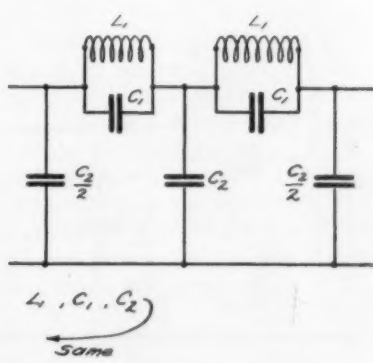
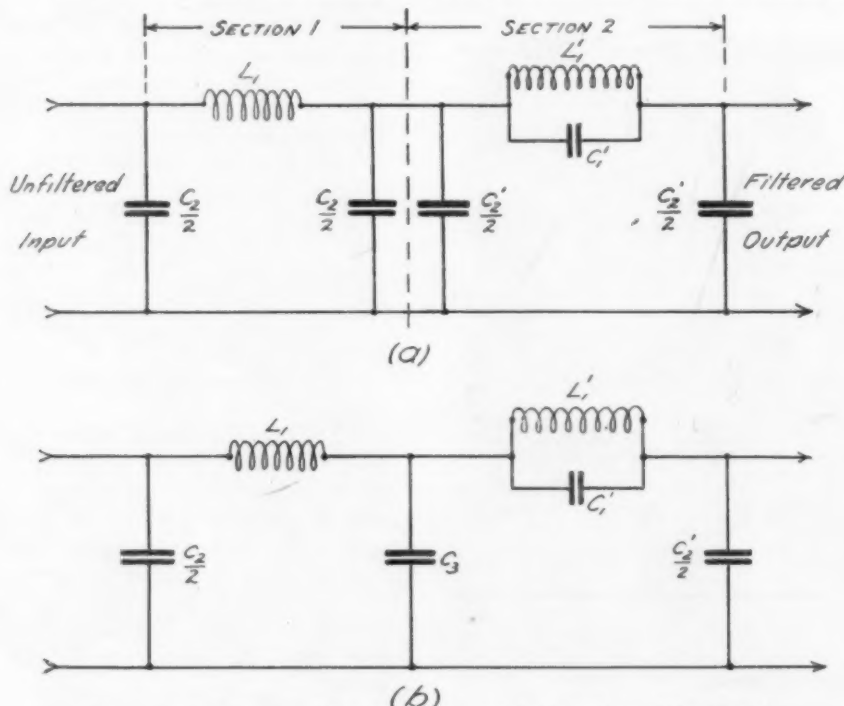
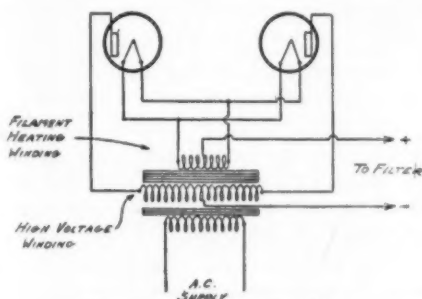

Fig. 2. Various Arrangements of Low-Pass Filters.
Fig. 3. Filter Circuit Whose Constants are Calculated in This Article.
Fig. 6. Two-Tube Rectifier.
The circuits of Fig. 2-a have the following properties:
The circuits of Fig. 2-b have the following properties:
The circuits of Fig. 2-c have the following properties:
- (1) Same as for Fig. 2-b.
- (2) Same as for Fig. 2-b.
- (3) For frequencies higher than that corresponding to maximum attenuation, the attenuation falls off again to some finite value at infinite frequency.
- (4) These circuits depend for their frequency of maximum attenuation upon the parallel resonant circuit in series with the line: hence the deficiencies of the circuits of Fig. 2-b are somewhat overcome.
A circuit consisting of a "π" section of Fig. 2-a together with a "π" section of 2-c is shown in Fig. 3. In this circuit the advantages of both the above mentioned circuits are obtained.
L_1, L_2, C_1, C_2 = values of inductances and capacities which are to be determined. These values refer specifically to corresponding symbols in Fig. 2.
The formulas by which the various values of inductance and capacity can be found, are noted below each of the circuits of Fig. 2. The filter circuits shown consist of two sections each, and in adding or subtracting sections or in combining sections of other types, it is important to isolate the individual sections before combining the inductances and capacities at the junction ends of the sections. Fig. 3-a illustrates this point. In this filter, which consists of one "π" section of the type found in the right hand circuit of Fig. 2-a and a "π" section of the type found in Fig. 2-c, the two capacities, $C_2/2$ and $C_2'/2$, are each in a separate section and their values must be determined independently. After this is done, a single capacity having a value equal to their sum may be substituted as shown at C_3 of Fig. 3-b.
Let us now turn our attention to the design of a composite filter of the type shown in Fig. 3-a. Both sections are of the "π" type. It was previously explained in connection with filter performance that the attenuating value of section 1 increases as the frequency increases and is infinite for infinite frequency. That of section 2 increases rapidly from the cut off frequency to the frequency of maximum attenuation, then falls off again to some finite value at an infinite frequency. A combination of the two sections yields great attenuation over all frequencies and the cut off is quite sharp. This point could be further sharpened by the addition of more sections like that of section 2 but we have no interest in such a refinement here since our primary interest lies in eliminating all frequencies within the limitations of practicability.
Fig. 6 and it is desired to rectify the output by means of the circuit shown in Fig. 3. The rectified output is to be used to supply two 50-watt tubes (UV 203) and the transmitter is to be used for C.W. signalling. Such a rectifier circuit as that of Fig. 6 gives an output wave having a frequency of twice the rectifier input frequency. Many attendant harmonics of this double frequency are usually present and these together with many transients must also be eliminated. The 120 cycle fundamental, due to rectifying 60 cycle current, is by far the most pronounced. The filter will therefore be designed to give maximum attenuation or the best filter effect on 120 cycles. Therefore $f_{\infty}=120$.
The solution of the problem now lies in dropping the above values of f_{∞} , f_0 , and Z_0 into the formulas found in Fig. 2, below the sections corresponding to those of Fig. 3-a.
For the first section of Fig. 3-a, we have